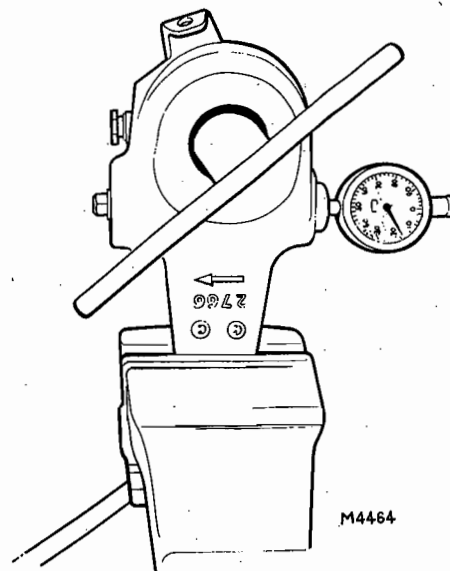

FIG. 6 CHECKING END-FLOAT OF WORM SCREW WITH SPECIAL INDICATOR GAUGE
5. Check the worm screw end-float using a dial test indicator, adaptor 004 and special tool 008, see Fig. 6. The end-float must not exceed 0,6 mm (0.024 in) or be less than 0,15 mm (0.006 in). If the end-float is not within the tolerances renew the worm screw.
6. Insert the new springs (23) in the housing and, using tool 005, compress the springs and fit the rack (32). Ensure the rack is correctly located in the housing and that the springs are correctly located on the recess of the rack. Fit a new Welch plug.
7. Using a new joint (27), fit the control unit (28, 29, 30) to the housing, ensuring the toe of the rack engages the cut out in the control disc (28).
8. Check the tooth height of the worm screw clutch using tools 008 and 004, see Fig. 6. Rotate the worm wheel in a clockwise direction and set the dial test indicator to register zero. Rotate the worm screw, using a 12 mm spanner, to record the clutch tooth height; minimum height 0,08 mm (0.0032 in).
9. Lock the front screw cover (2) with a new rivet (1).